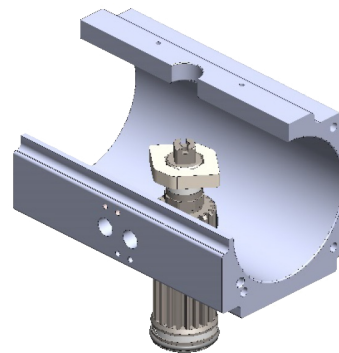

Figure 12: Pinion Removal
- a. The travel stop cam will not fit through the bottom bore. It will slip off the pinion prior to the pinion removal. See figures 12 and 13.